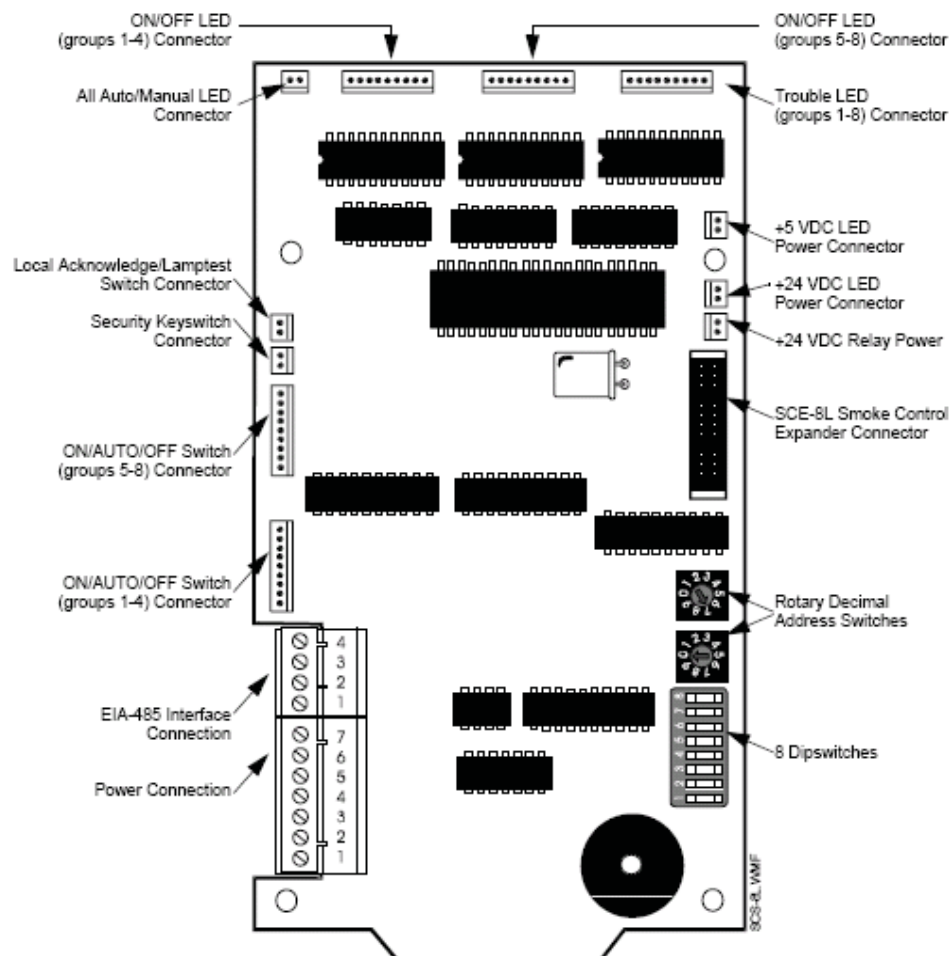

Figure 1 - SCS-8LAU PCB Layout
Each SCS-8LAU has two rotary decimal switches for addressing and 8 dipswitches for mode configuration (see Figure 1).
- YY is the SCL-8LAU address, which corresponds to the Rotary Decimal Address Switch positions in Figure 1